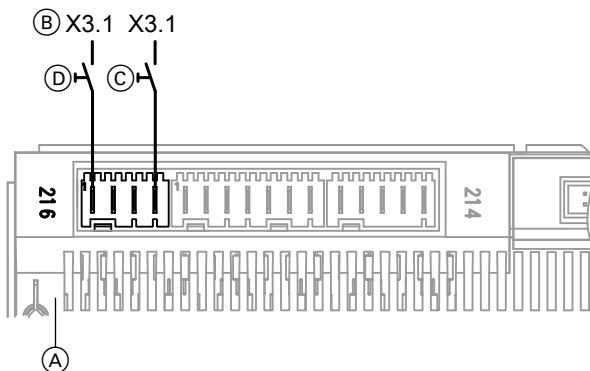

Fig. 62
- To the heat pump control unit as shown in Fig. 62